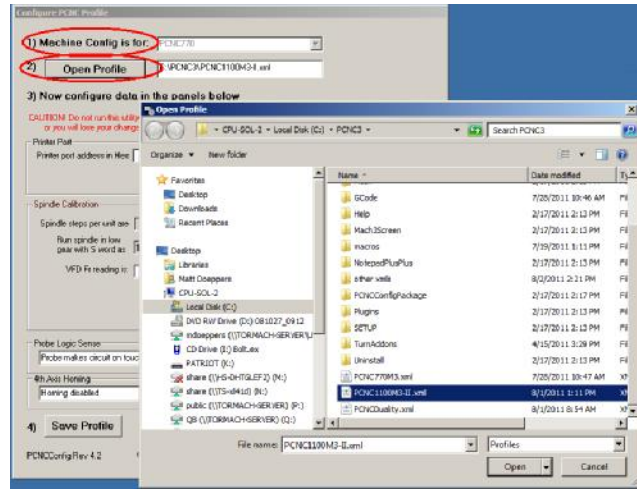

Figure 9.10 – Opening the profile
- Open the PCNCConfig software program located under “Programs” on your “Start” menu. This will have been installed when you installed the control software. Click the “Open Profile” button and choose the machine profile you wish to modify (figure 9.10). The profile for the PCNC 1100 is: